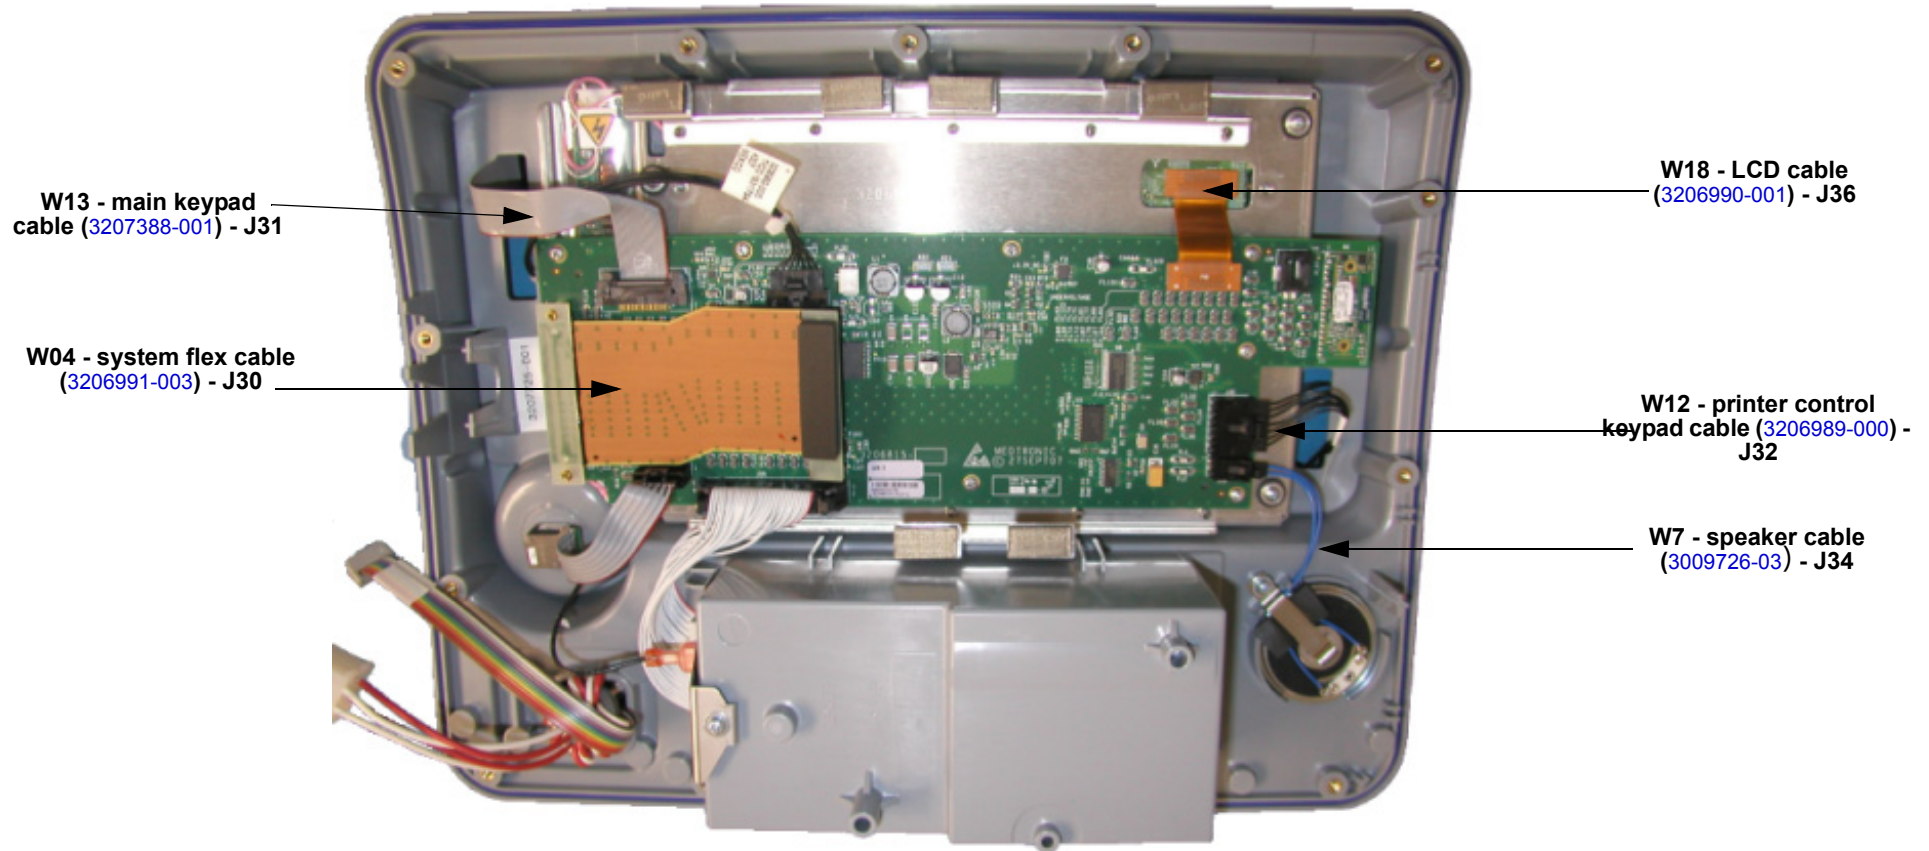
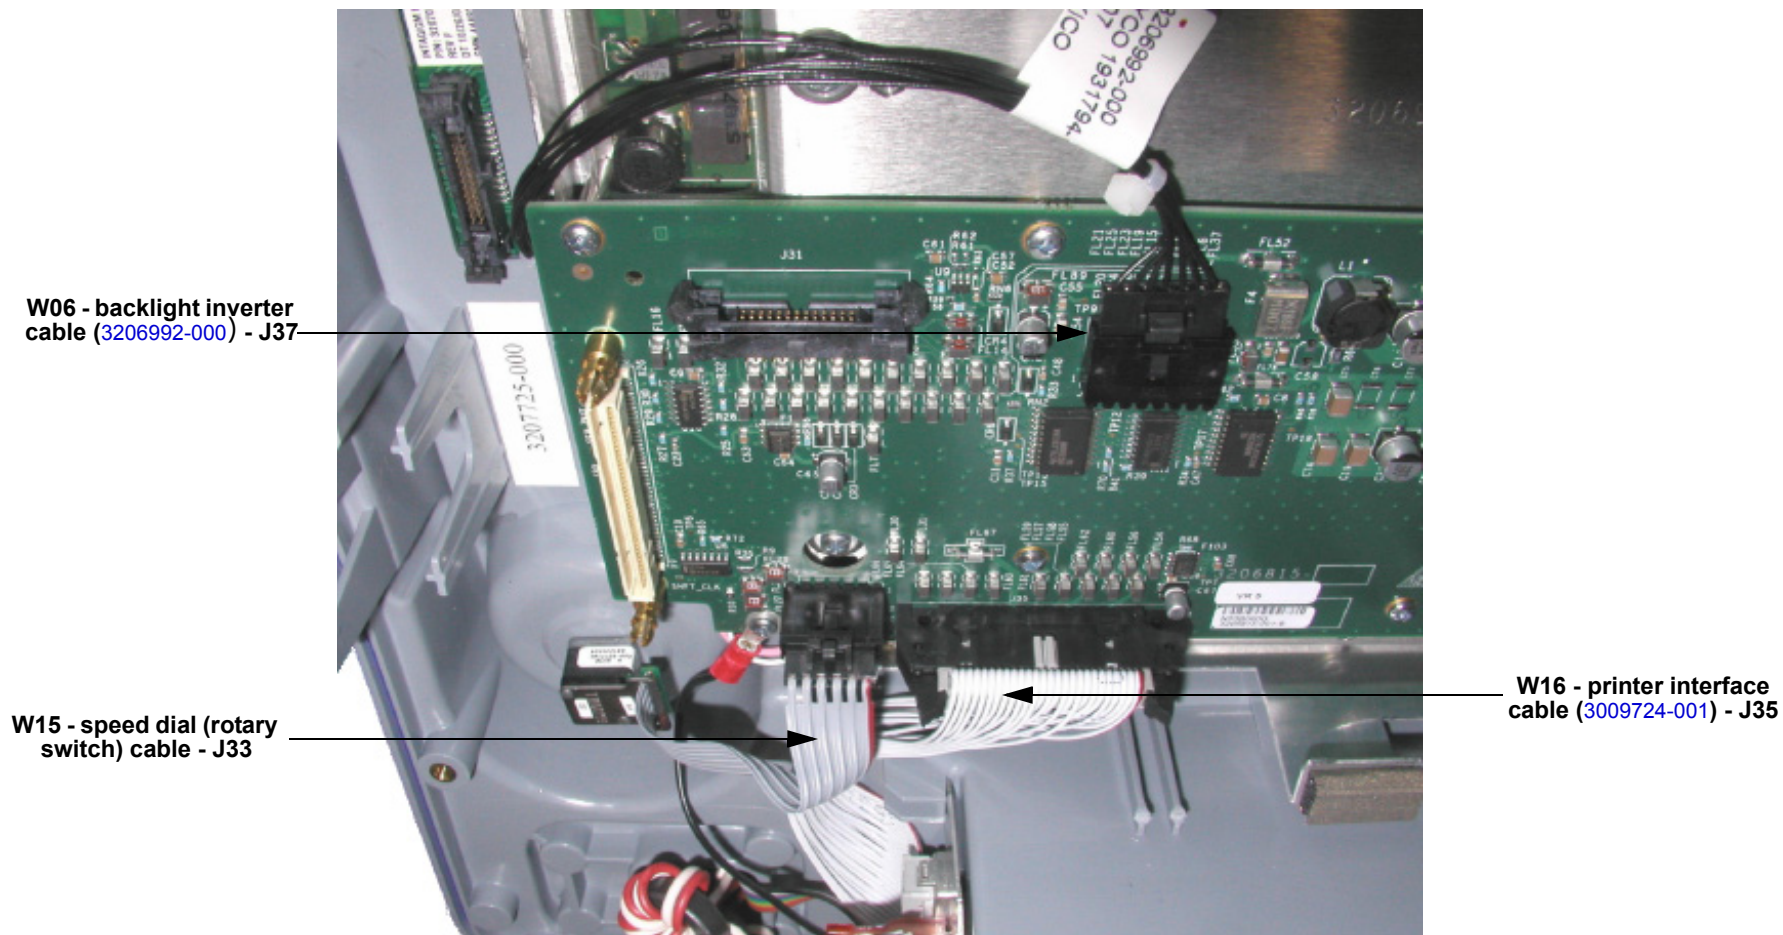

Figure 10.11—Interface PCB cable connection locations - view 1 of 2
Figure 10.12—Interface PCB cable connection locations - view 2 of 2
2. Disconnect the connectors (from top left, counterclockwise) as follows (see Figure 10.11 on p. 311 and Figure 10.12 on p. 312):
3. Install the connectors clockwise, as follows (make sure all connector locking tabs are positioned to secure their respective connectors) (see Figure 10.11 on p. 311 and Figure 10.12 on p. 312):